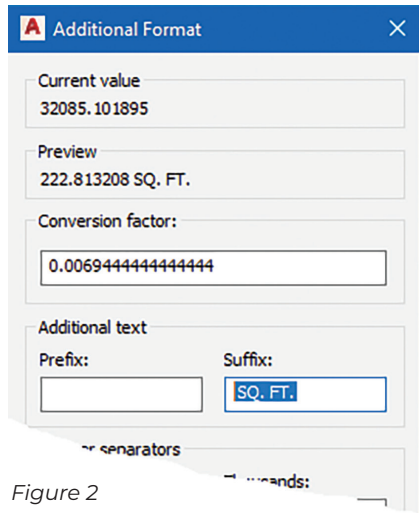

Figure 2
- The process is still not over because to add a suffix like Sq. Ft. after the area value, you would have to click the Additional Format button located on the bottom of the right column. This will bring up another GUI on top of the first GUI giving you options to manually enter a Suffix like SQ. FT. (see Figure 2).